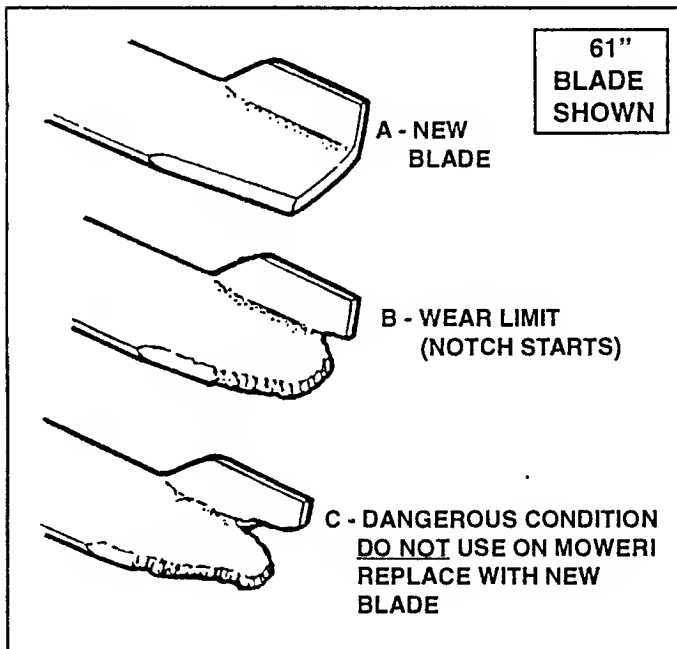

FIGURE 9.1
- A. When performing service on a mower unit, be sure to check the Cutting Blades for damage or signs of excessive wear. See Figure 9.1 for blade wear limits.
Never allow a customer to take a mower out of your repair shop with a Cutting Blade worn to the extent shown in Illustration "C" of Figure 9.1, without warning that customer of the danger that a tip could fly off and cause either personal injury or property damage.
- C. Clean and inspect each Blade for excessive wear and damage. Refer to Figure 9.1.